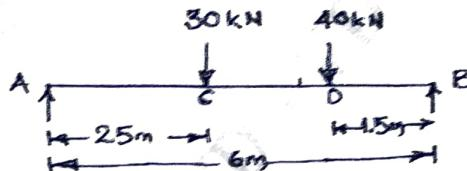

Fig.Q.4(b)
- 4 a. Determine the slope at left support and deflection at mid span of simply supported beam subjected to the loads as shown in Fig.Q.4(a) by using Maculay's method take $EI = 200 \text{ MN-m}^2$. (10 Marks)
b. Determine the slope at A and deflection at mid span for the above beam shown in Fig.Q.4(b) by using moment area method $EI = 200 \text{ MN-m}^2$. (10 Marks)